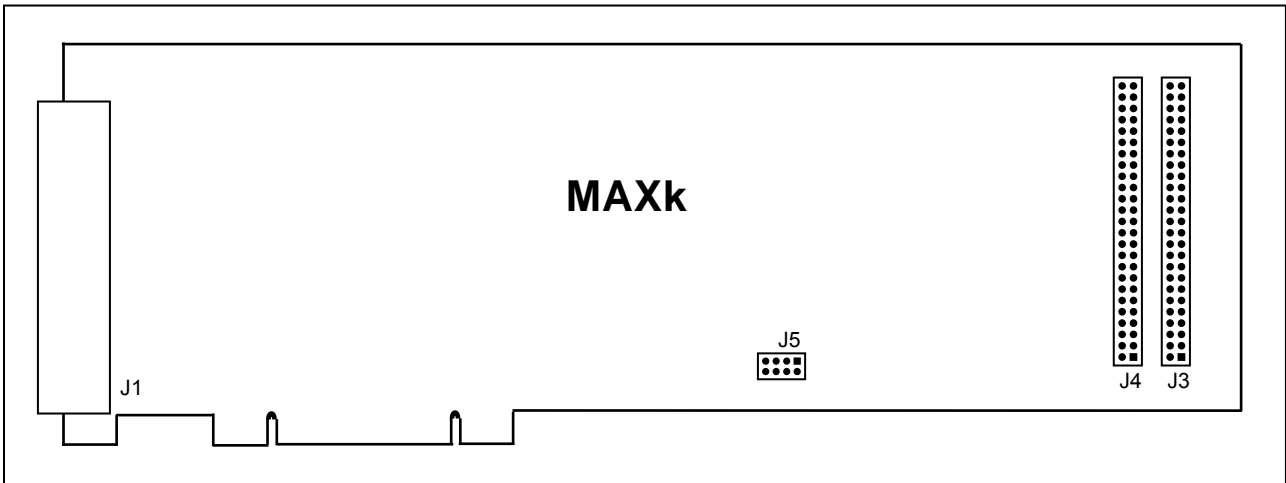

Figure 2-3 MAXk connector and jumper locations
Note: The Board Number Select Jumper J5 must be set BEFORE power up. (See Figure 2-3 for MAXk component locations.)
- For controllers with more than 5 axes, attach the ribbon cable to the J3 and J4 (Figure 2-3) connector on the board. Make sure to align pin-1 correctly at the connector on MAXk.